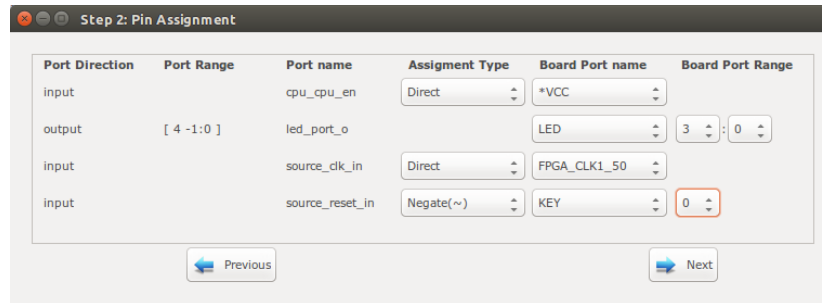

Figure 5.26: SoC pin assignment.
5. Assign your SoC pins to your FPGA boards pins as shown in Figure 5.26.